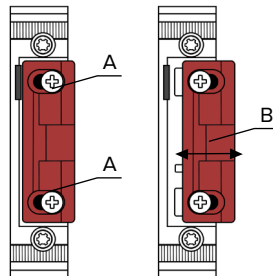

Fig. 29.
Shift the latch bolt (B) in the required direction. Then tighten the screws (A) and check the door closure (Fig. 29).